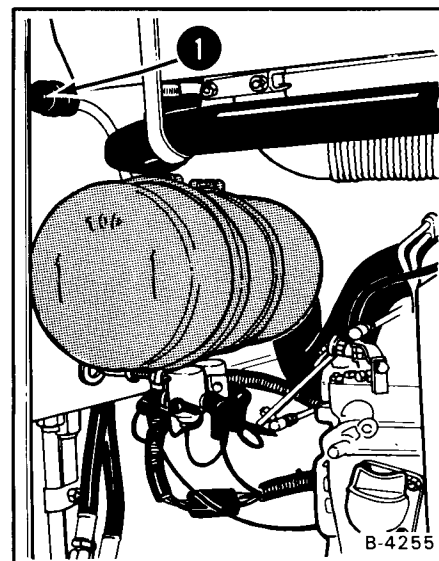

Fig. 43 Condition Indicator
The large air cleaner element (outer) must be replaced when the red ring shows in the window of the condition indicator (Fig. 43, Item 1). DO NOT remove the inner filter. Service as follows:
5. Push the button, at the condition indicator (Fig. 43, Item 1), to remove the red ring.